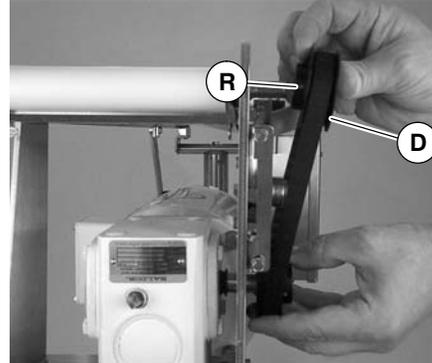

Figure 18
3. Remove timing belt (C).
**NOTE:** If timing belt does not slide over pulley flange, loosen driven pulley set screws (R of Figure 18) and remove pulley with belt. For re-installation, see steps 4 and 5 on page 7.